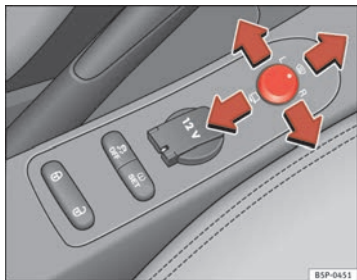

Fig. 90 Controls of exterior mirrors
1. Turn knob ⇒ fig. 90 to position **L (left exterior mirror)**.
- Turn the knob forwards to the central position ⇒ fig. 90  so that the heated rear view mirrors warm up and the heated windscreen* in the wiper blade rest area is activated ⇒ page 130.
- Turn the control ⇒ fig. 90 to position  to fold in the exterior mirrors. You should always fold in the exterior mirrors if you are driving through an automatic car wash. This will help prevent damage.